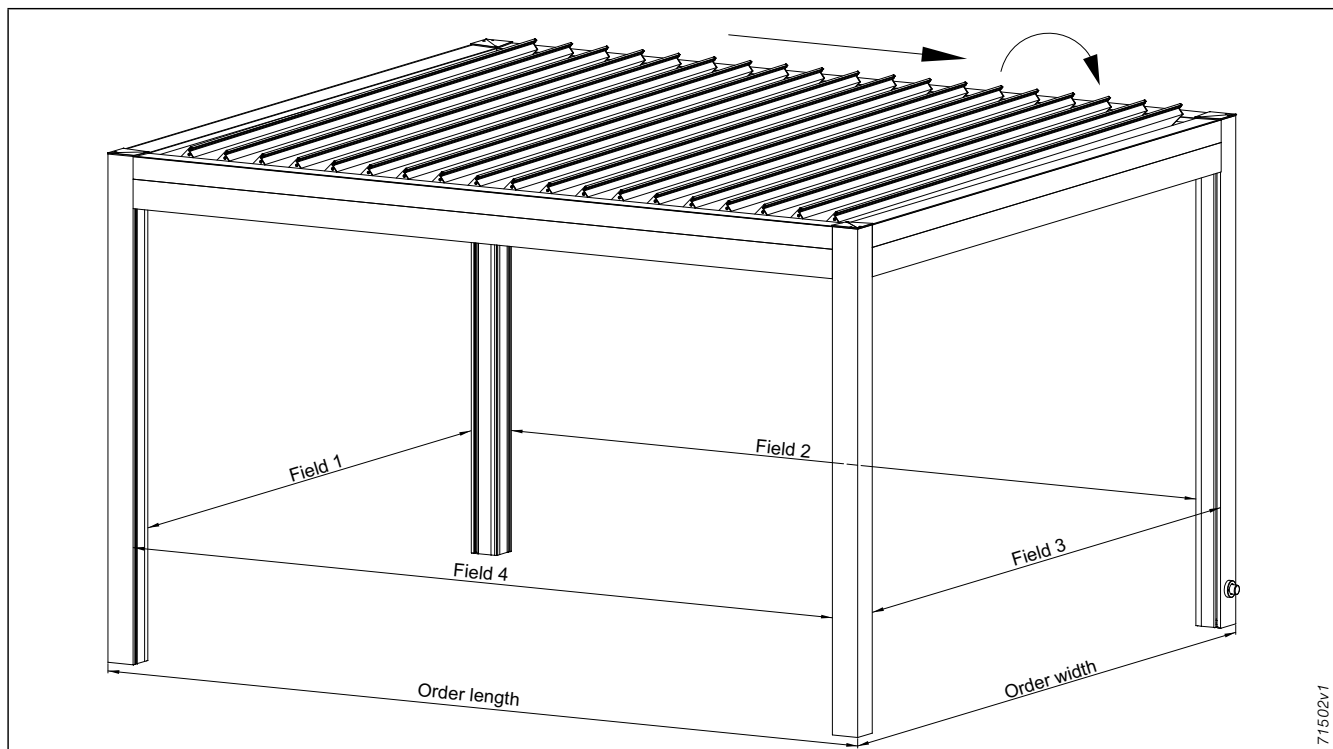

fig. 51: Arrangement for slat roof L60/L70 accessories
- only possible in pairs per field (for details see Fig. 51)